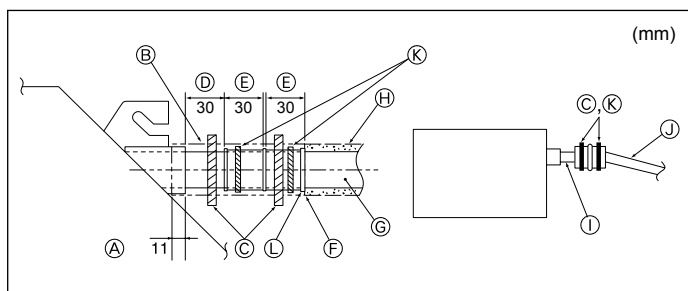

Fig. 3-5
- ① O.D. ø38 PVC TUBE for grouped piping. (9 mm or more insulation)
- ② Up to 500 mm
1. Connect the drain socket (supplied with the unit) to the drain port. (Fig. 3-5) (Affix the tube using PVC adhesive then secure it with a band.)